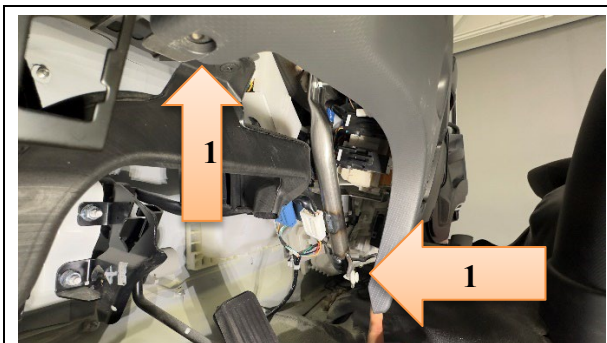

Figure 22
18. Remove the two (2) clips shown in Figure 22 from the instrument panel.